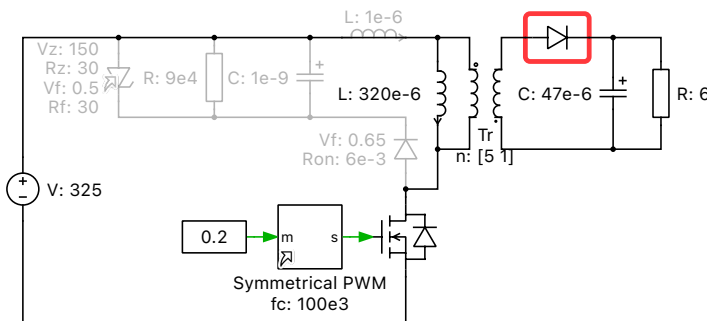

Figure 12: Flyback converter with a configurable diode (tutorial stage 2)
- 1 Repeat steps 1 - 6 of Section 2 for the secondary side diode of the flyback converter, highlighted in Fig. 12.
- *Optional*: To draw the Diode as shown in Fig. 12, use the following lines of code in the **Icon** tab:
The original diode component has been replaced by a configurable subsystem. This subsystem enables switching between the PLECS-based and SPICE-based diode models within the same schematic. Your model should match the one shown in Fig. 12, which is available in the file `flyback_converter_2.plecs`.